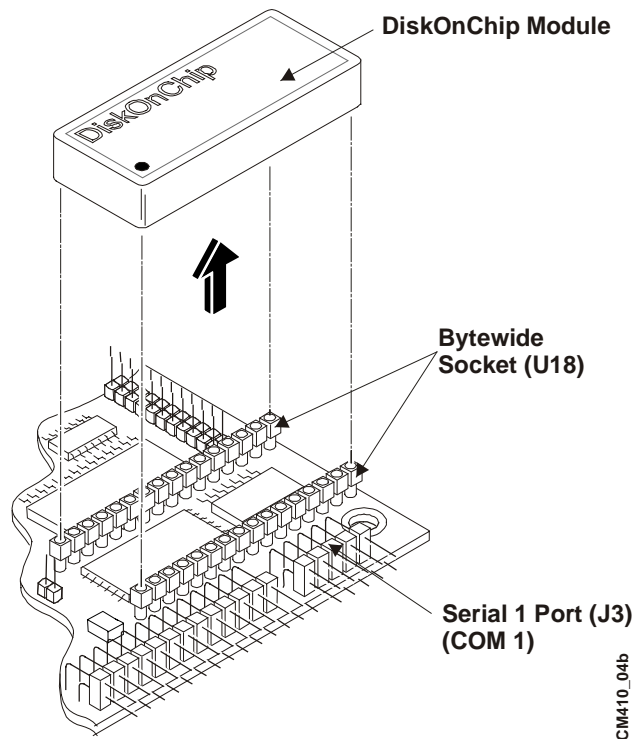

Figure 2-2. Removing DiskOnChip
3. Lift the DiskOnChip away from the bytewise socket and put it on an anti-static surface or anti-static package for safe keeping. See Figure 2-2.